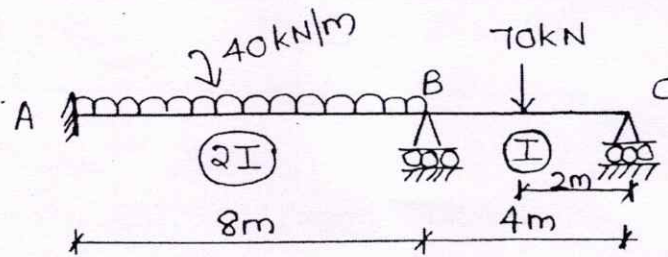

Fig. 4
- 4 a) Analyse the continuous beam shown in Fig. 4 by moment distribution method. (15)